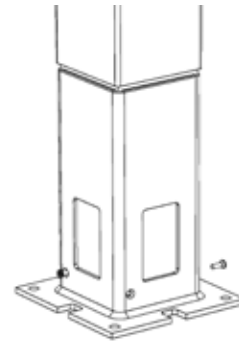

Figure 5
8. If necessary, place a shim under the mount to make the post plumb and true. To secure wood insert to surface mount bracket, use two #8 x 1" (3 cm) flat head screws (Figure 5).
included) (Figure 5).